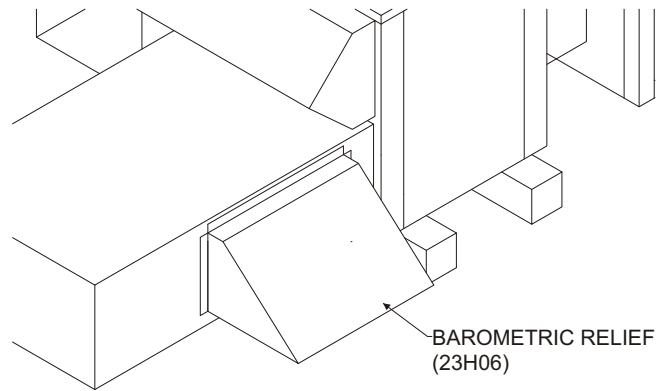

Figure 5
Secure pressure relief damper near Economizer over hole in return air duct using (4) screws. Refer to Figure 5.